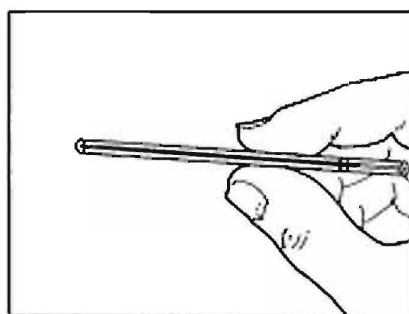

Figure 15. Remove Blood from Collecting Tip.
(6). Tilt the tube until blood flows about 1/8" in from the blood collecting tip (Figure 15). Then return tube to a horizontal position so that no blood is lost.